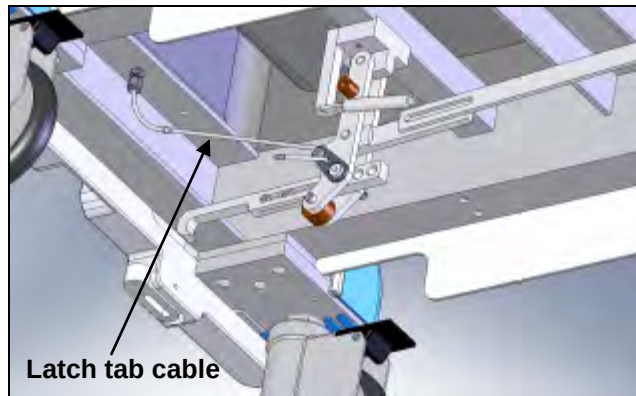

Figure 85
3. Remove the cable end from the Latch Tab Cable and detach the cable from the Swing Assembly (Figure 85).
8. Insert Latch Tab Cable through cable elbows (Figure 85). An old or a new cable can be used depending on the condition of the cable.